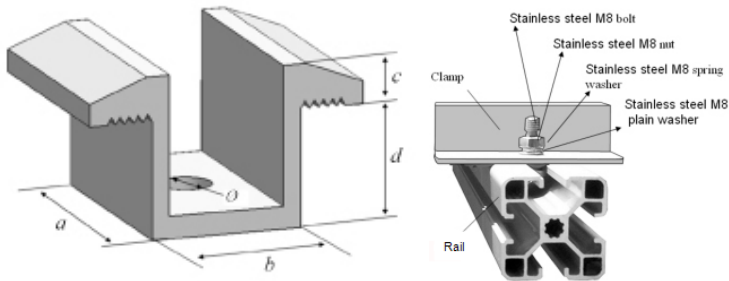
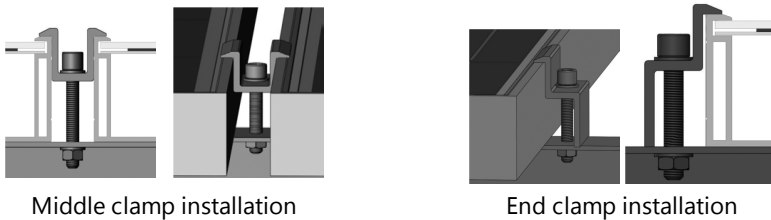

Figure 2: Middle clamps (left) and side clamps (right)
Figure 3: End clamp and middle clamp installation
The dimensions for the middle clamps are: $a \geq 40$ mm, $b \geq 26$ mm, $c = 8$ mm, $d \geq 28$ mm, and $\varnothing = 9$ mm (See *Figure 2*)
4. Close-ups of the middle clamps and the side clamps are indicated in *Figure 2* and *Figure 3*.